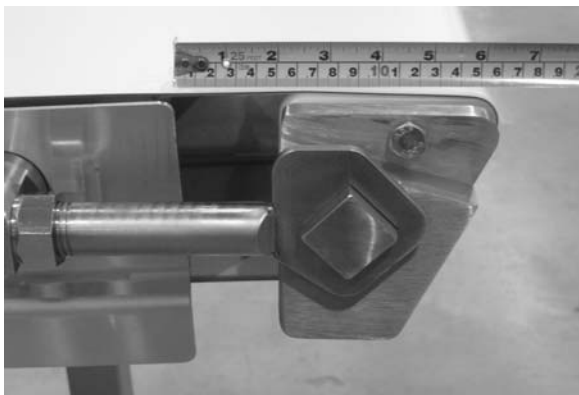
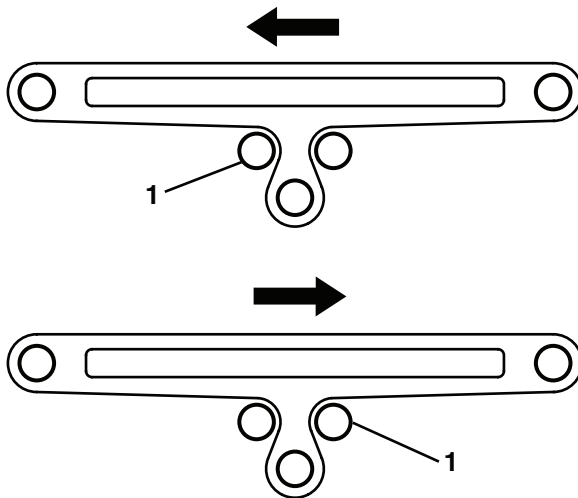

Figure 51
Figure 54
When installing a new belt, set conveyor tracking elements to the "zero position" and start the tracking procedure. The zero position is when the tails are tensioned out to the 6" dimension as shown in (**Figure 51**, and the infeed tension roller (**Figure 54, item 1**) on the center drive assembly is set to its outermost position (roller away from center of box, against guard).
Tracking of belt through the center drive is done by adjusting the position of the infeed roller (**Figure 54, item 1**) on the center drive assembly.